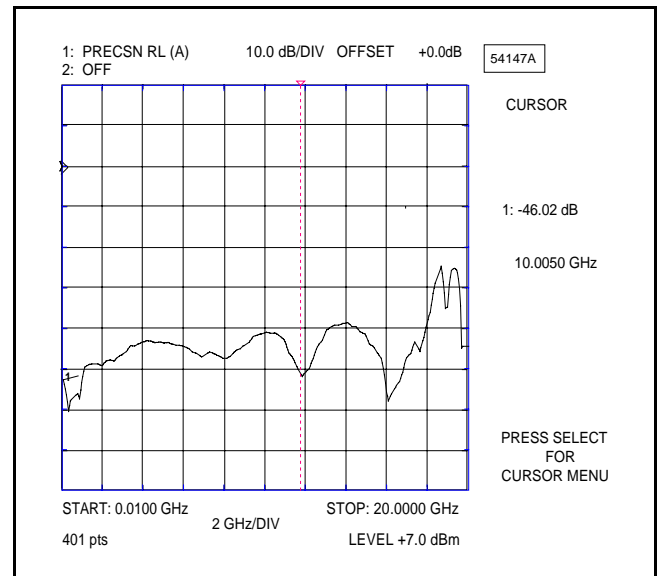

Figure 12. Direct Readout of Directivity
15. Observe that the waveform displayed resembles that shown in Figure 12.